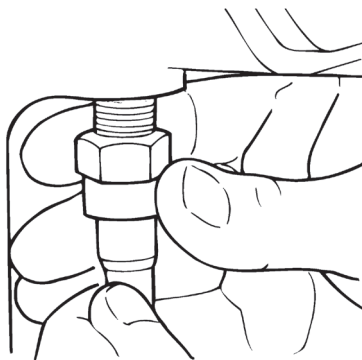

Figure 6.6
3. Remove the differential lock sensor switch, if used, and jam nut from the differential. Figure 6.6.